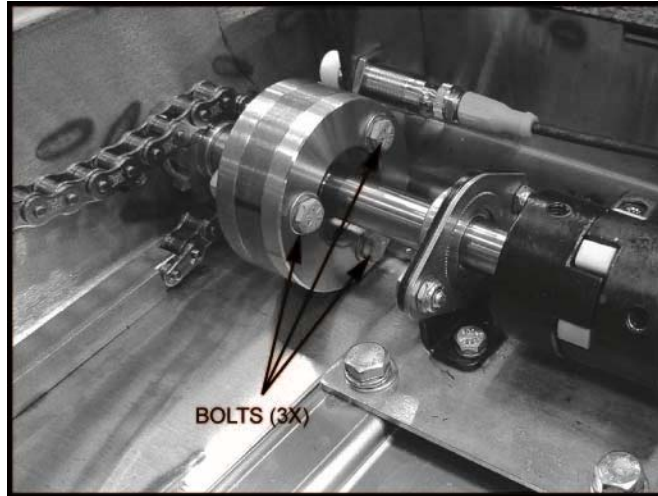

FIGURE 2-17: ADJUSTABLE COUPLER
- a. Refer to **Figure 2-17**. Loosen three bolts and nuts of the adjustable coupler.